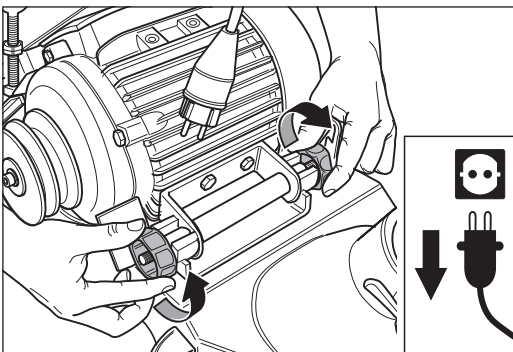

Fig. 102 Loosen the two motor nuts.
- 4 Loosen the two motor nuts at the motor bearing bracket (Fig. 102).